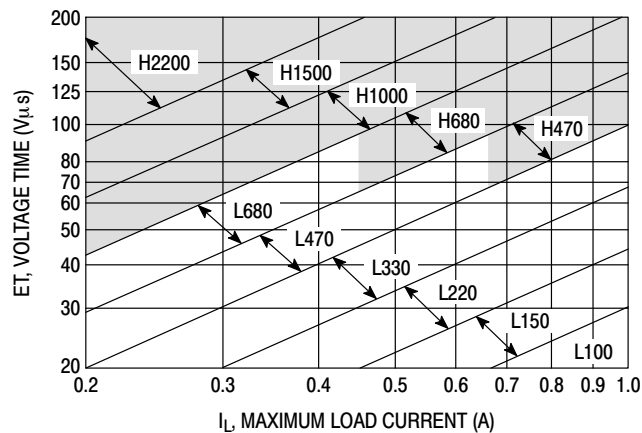

Figure 21. LM2575-Adj
4. Inductor Selection (L1) A. Use the following formula to calculate the inductor Volt x microsecond [V x μs] constant: $E \times T = (V_{in} - V_{out}) \times \frac{V_{out}}{V_{on}} \times \frac{10^6}{F[\text{Hz}]} [V \times \mu s]$ B. Match the calculated E x T value with the corresponding number on the vertical axis of the Inductor Value Selection Guide shown in Figure 21. This E x T constant is a measure of the energy handling capability of an inductor and is dependent upon the type of core, the core area, the number of turns, and the duty cycle. C. Next step is to identify the inductance region intersected by the E x T value and the maximum load current value on the horizontal axis shown in Figure 21. D. From the inductor code, identify the inductor value. Then select an appropriate inductor from the Table 1 or Table 2. The inductor chosen must be rated for a switching frequency of 52 kHz and for a current rating of $1.15 \times I_{load}$. The inductor current rating can also be determined by calculating the inductor peak current: $I_{p(max)} = I_{Load(max)} + \frac{(V_{in} - V_{out})t_{on}}{2L}$ where t_{on} is the "on" time of the power switch and $t_{on} = \frac{V_{out}}{V_{in}} \times \frac{1}{f_{osc}}$ For additional information about the inductor, see the inductor section in the "External Components" section of this data sheet.	4. Inductor Selection (L1) A. Calculate E x T [V x μs] constant: $E \times T = (12 - 8.0) \times \frac{8.0}{12} \times \frac{1000}{52} = 51 [V \times \mu s]$ B. E x T = 51 [V x μs] C. $I_{Load(max)} = 1.0 \text{ A}$ Inductance Region = L220 D. Proper inductor value = 220 μH Choose the inductor from the Table 1 or Table 2.